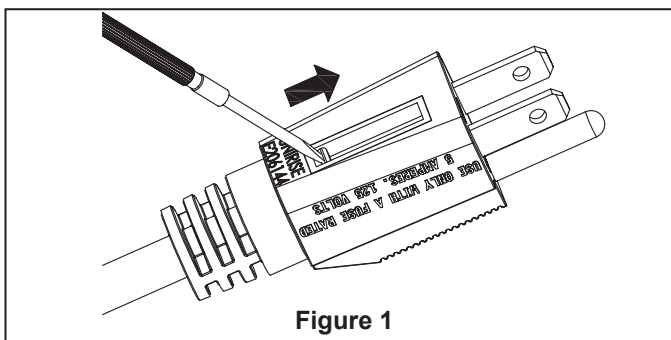

Figure 1
1. Carefully remove from package. (Figure 1)
- 1. Remove & discard the Cord Retainer from the base. (Figure 1)
2. Slide open fuse access cover on top of attachment plug towards blades (Fig. 1).